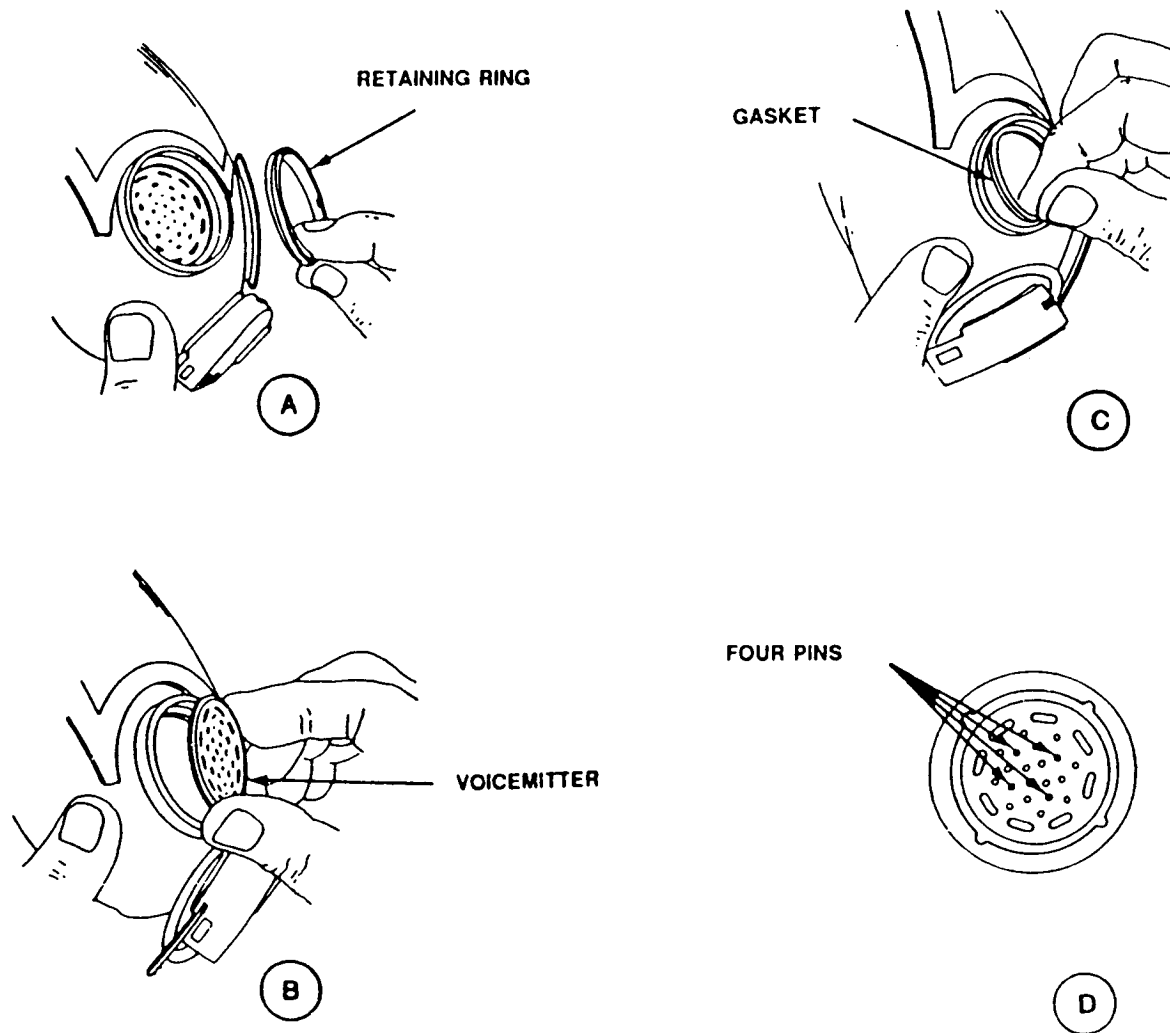

Figure 3-8. Side Voicemail Assembly
- e. With the straight side of carrier shoulder strap D-ring, unscrew and take out side voicemitter retaining ring, voicemitter and gasket (Figure 3-8). Discard gasket.